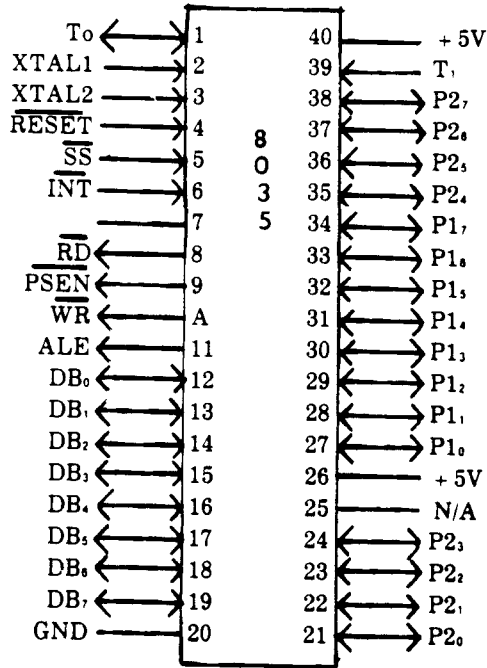
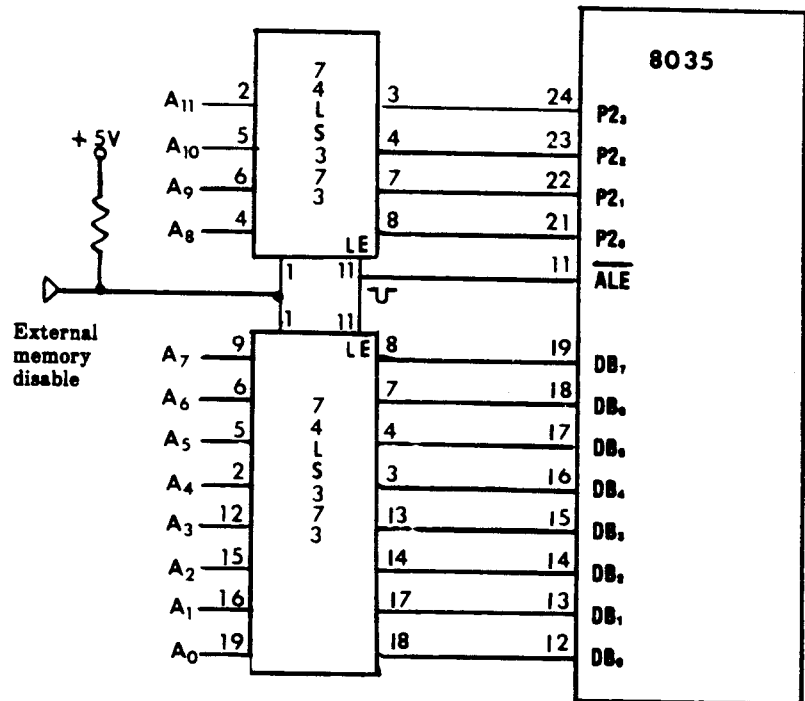

Figure 1: Pinout of the 8035/8048/8748 C.P.U.
Figure 2: Address Multiplexing Circuit.
**The CPU.** The heart of CD-1, MPB is the CPU. The CD-1 utilizes Intel's 8035 CPU which is a member of the 8048 family. The 8035, 8048, and 8748 are pin compatible microprocessors with differences only in the type and amount of resident program memory. The 8048 has 1K of masked read only memory which is programmed at the factory. The 8748 has 1K of electrically programmable read only memory, and the 8035 has no internal program memory. A pin diagram of the 8035 is shown in Figure 1. Available on the CPU is an 8-bit bi-directional data bus, two 8-bit parallel I/O ports, five input control signals, five output control signals, two crystal connection inputs, and four power connection pins. The function of these individual pins will be discussed in detail as they are used in the peripheral circuits of the CD-1.
**The Multiplexed Address Bus.** You may have noticed the absence of address pins on the CPU. The 8035 uses bus multiplexing to derive its address lines, which reduces the number of pins required on the CPU. Refer to Figure 2 for the address multiplexing circuit. For each external memory operation the CPU must latch the address of the current memory read, or memory write, operation. The eight lower order bits of the address are made available
**8-Bit Parallel I/O Port.** The 8035 has two 8-bit parallel I/O ports (see Figure 1). I/O port 1 is divided into two 4-bit words. The four lower order bits P10 through P13, are used to output the four higher order address bits, A8 through A11. These bits are output to the address bus multiplexing circuit (see Figure 2). The four higher order bits of port 1, P14 through P17 are used by the priority interrupting circuit which will be discussed later. Since I/O port 1 is used for "on board" operations it is not available for interfacing on the CD-1. Parallel I/O port 2, however, is an interfacing option. The eight pins of I/O port 2 on the CPU go directly to an interface socket on CD-1, and I/O port 2 has a unique set of inputting and outputting instructions to control its operation. The major characteristic to consider when using I/O ports 1 or 2 is that they are quasi-bidirectional. This implies the following characteristics: